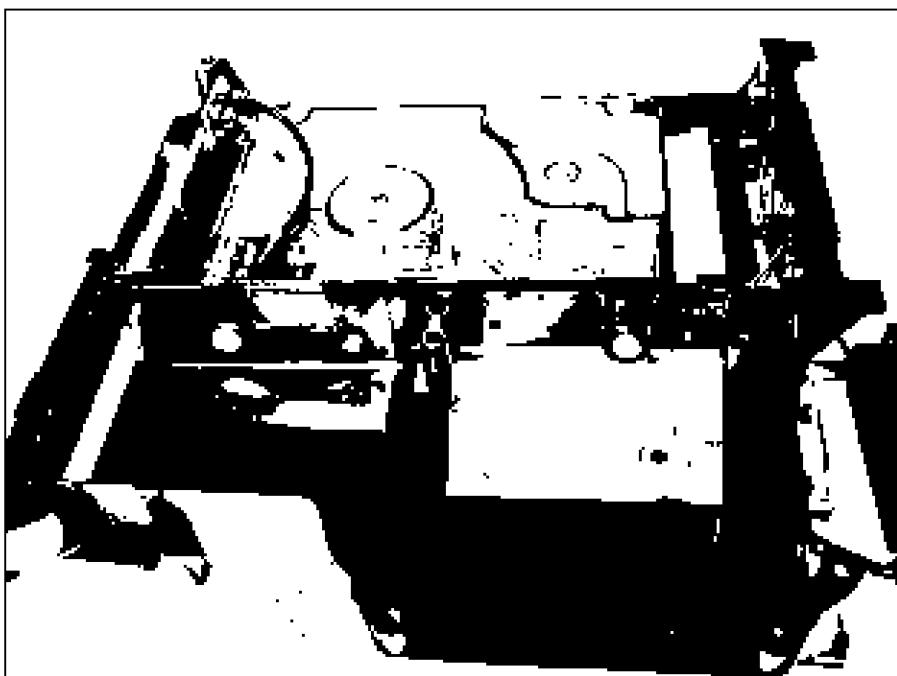

Figure 7-8:
9. Remove the remaining two hard drive screws on the opposite side of the hard drive, as shown in Figure 7-8.